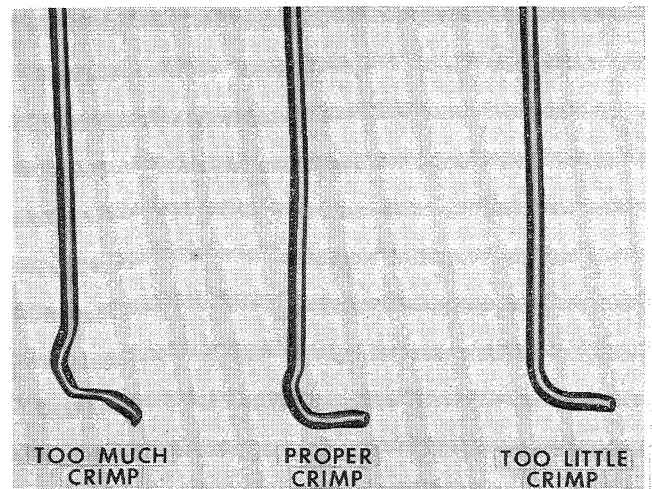

Figure 85
3. Remove the wire and compare the crimp to that of the middle wire shown in Figure 85.